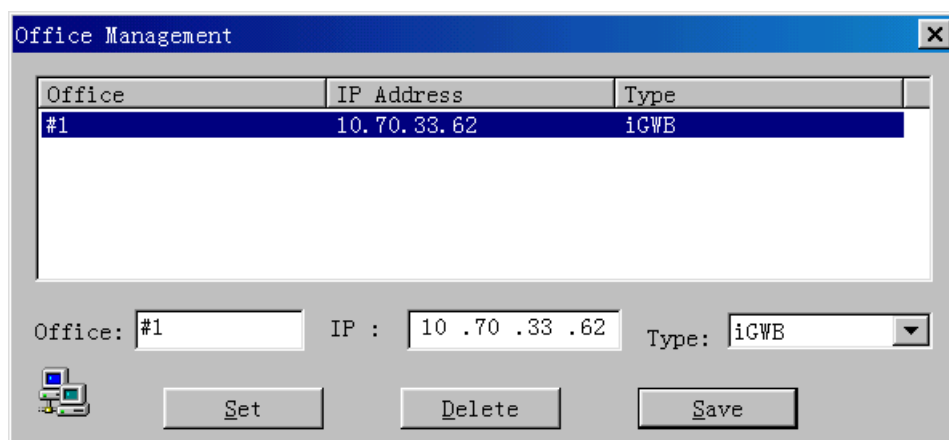

Figure 3-6 [Office Management] dialog box
- 2) On the CDR console, select [System/Office Management], or click the  icon on the toolbar. The [Office Management] dialog box is displayed, as shown in Figure 3-6.